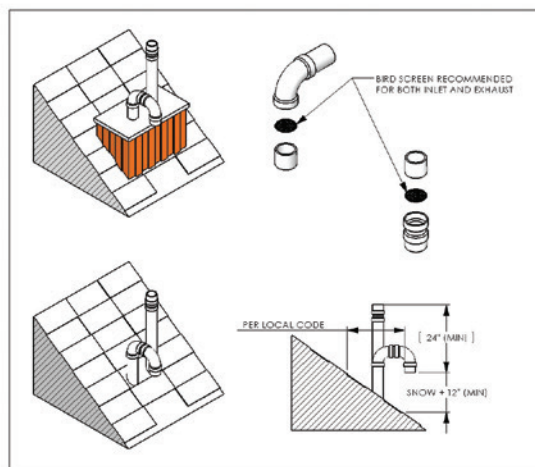

Figure 4: Rooftop vent terminal configurations
- If used, the intake air pipe is not typically drained, so it must be terminated with a down-turned elbow (see **Figure 4**). The intake pipe does not need to penetrate the roof at the same elevation as the exhaust (as shown); lower down roof is OK.